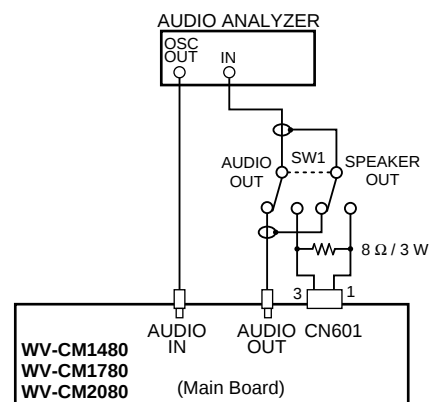

Fig 3-2
- The Fig. 3-2 shows the connecting diagram for the Audio Section adjustment.